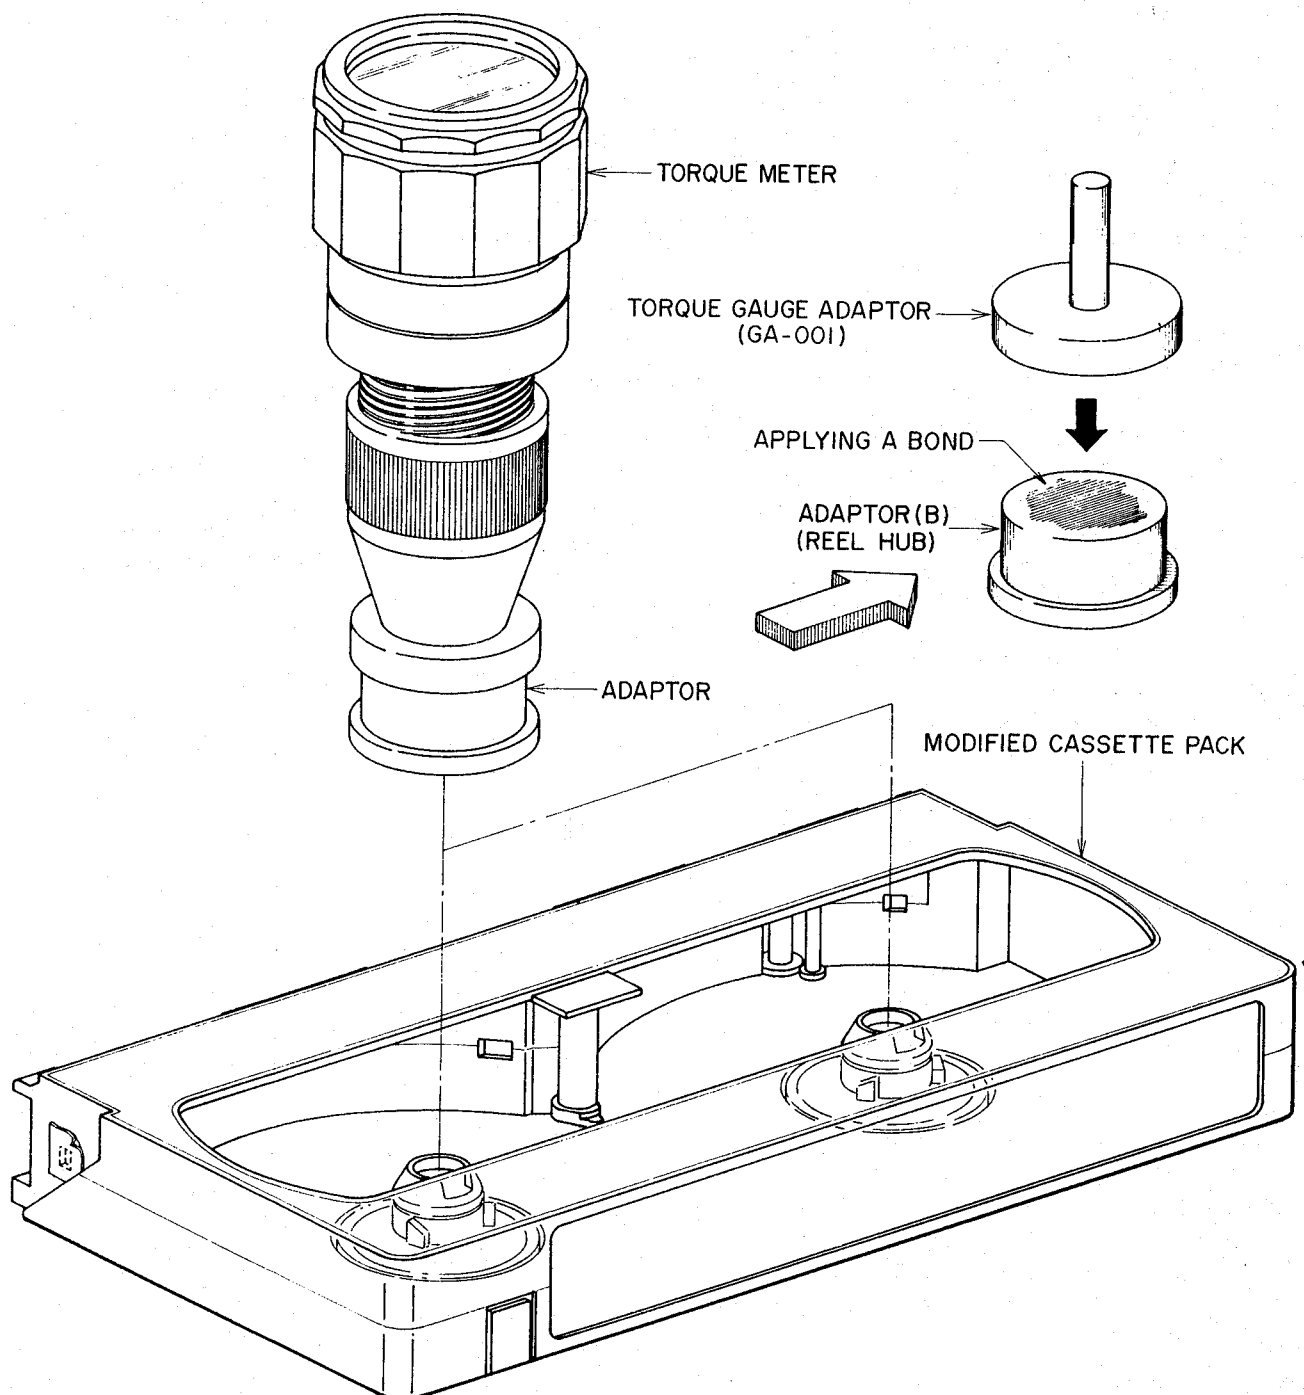

Fig. 112
### 3. CHECKING THE VARIOUS TORQUES (Refer to Figs. 112, 113)
2. A modified cassette pack is shown in Fig. 112. The upper side of the cassette pack has been cut away and the tape taken out.